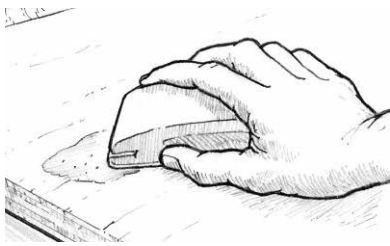

Figure 23 Sand cured fairing compound to desired contour.
6. Sand the fairing material to blend with the surrounding contour (Figure 23). Begin with 50-grit sandpaper if you have a lot of fairing material to remove. Use 80-grit paper on the appropriate sanding block when you are close to the final contour. CAUTION! Don't forget your dust mask. Remove the sanding dust and fill any remaining voids following the same procedure.